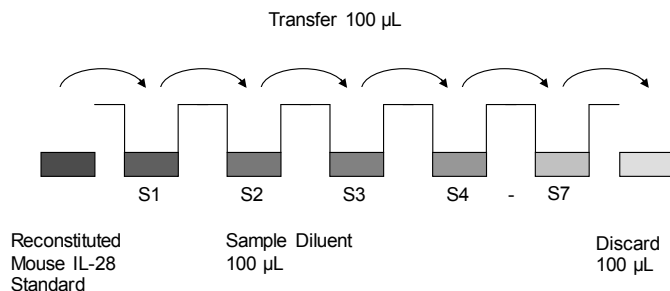

Fig. 7 Dilute standards - microwell plate
- Standard dilution on the microwell plate (Alternatively the standard dilution can be prepared in tubes – see “External standard dilution” on page 3): Add 100 µL of Sample Diluent in duplicate to all standard wells. Pipette 100 µL of prepared standard (see “Mouse IL-28 standard” on page 3, concentration = 4000 pg/mL), in duplicate, into well A1 and A2 (see Table 1). Mix the contents of wells A1 and A2 by repeated aspiration and ejection (concentration of standard 1 S1 = 2000.0 pg/mL), and transfer 100 µL to wells B1 and B2, respectively (see Figure 7). Take care not to scratch the inner surface of the microwells. Continue this procedure 5 times, creating two rows of mouse IL-28 standard dilutions, ranging from 2000.0 pg/mL to 31.3 pg/mL. Discard 100 µL of the contents from the last microwells (G1/G2) used.